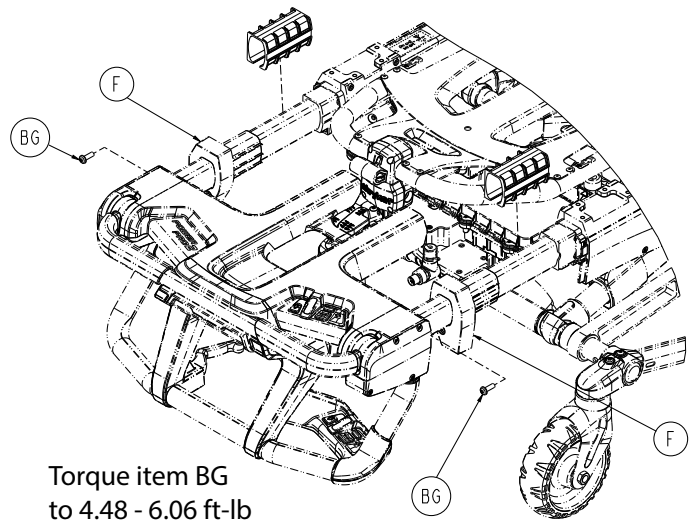

Figure 24 –
13. Using a T30 Torx driver, remove the pan head machine screw (BG) that secures the outer rail end cap (F) to the outer rail (Figure 24). Repeat on the other side. Discard the screws.